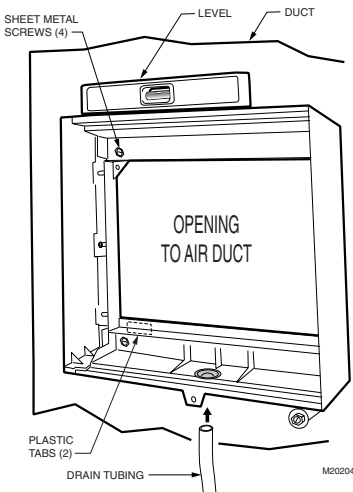

Fig. 4. Installing humidifier on duct.
7. Make sure the humidifier housing is level, then position it in the opening so the plastic tabs are in place on the *lower sheet metal edge* of the opening. Use pliers, as necessary, to flatten cut edges. See Fig. 4.